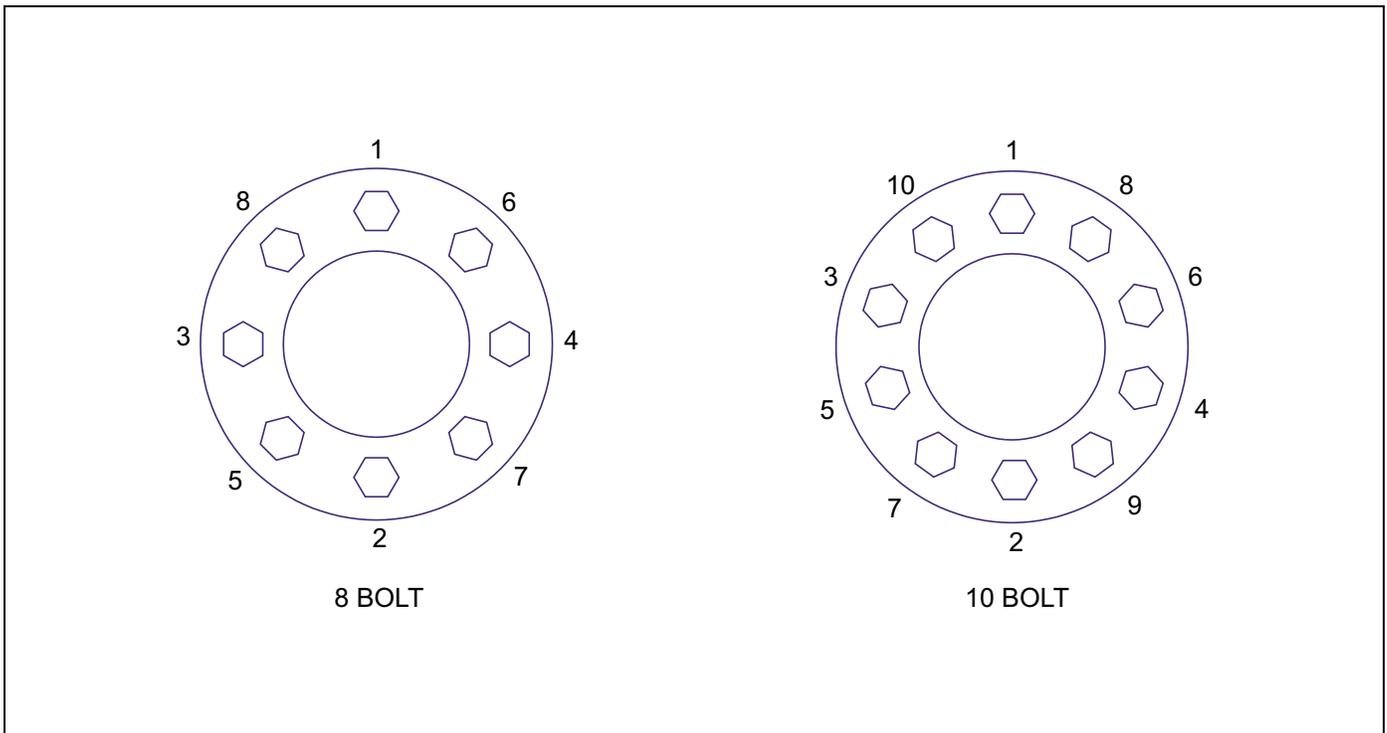

Figure 4-14: Stud Tightening Sequence
4. Install flange nut (pilot mount) and tighten to 50 foot-pounds using the sequence in (Figure 4-14.) Then tighten to full torque of 450 to 500 foot-pounds for ball seat and 450 to 500 foot-pounds. for pilot mount, using the same sequence.
Improper tightening sequence	Follow proper tightening sequence (See Figure 4-14.)